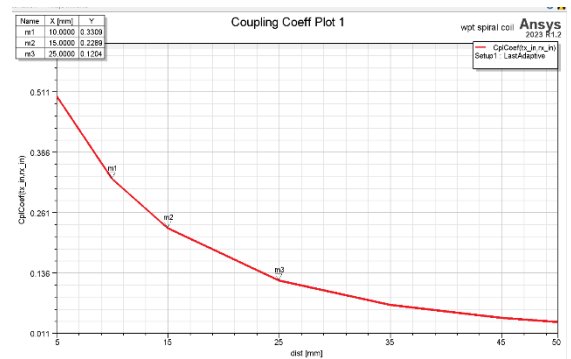

Fig. 25: Coupling Coefficient vs distance graph
3.RESULTS: The coupling coefficient decreases with distance as shown in Figure 25.